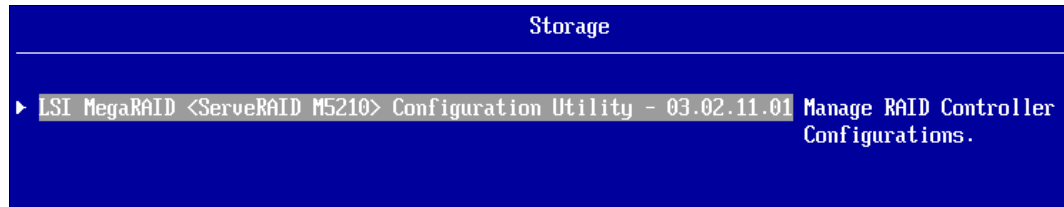
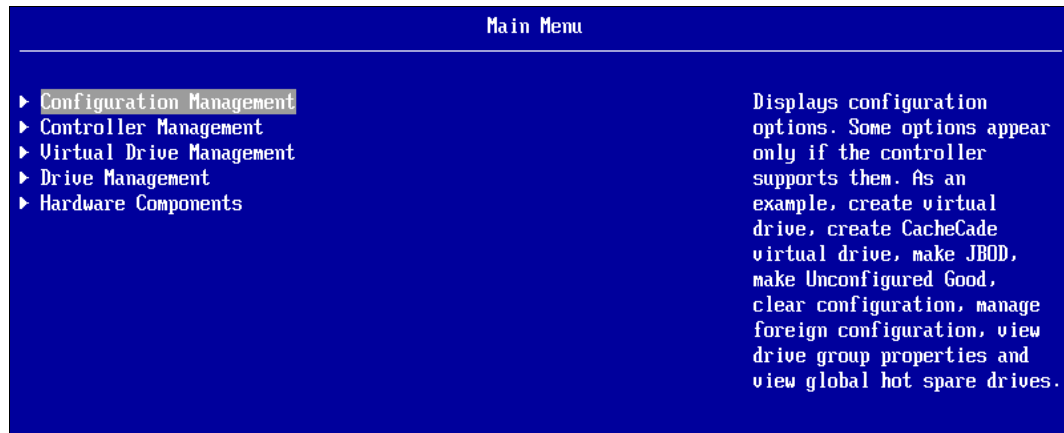

Figure 22 Select the RAID controller
Figure 23 Controller main menu
1. Select the RAID controller that you want to configure arrays for, as shown in Figure 22. This opens the main menu for that controller, as shown in Figure 23. If there are no virtual drives created when you select that component, the main menu is empty.